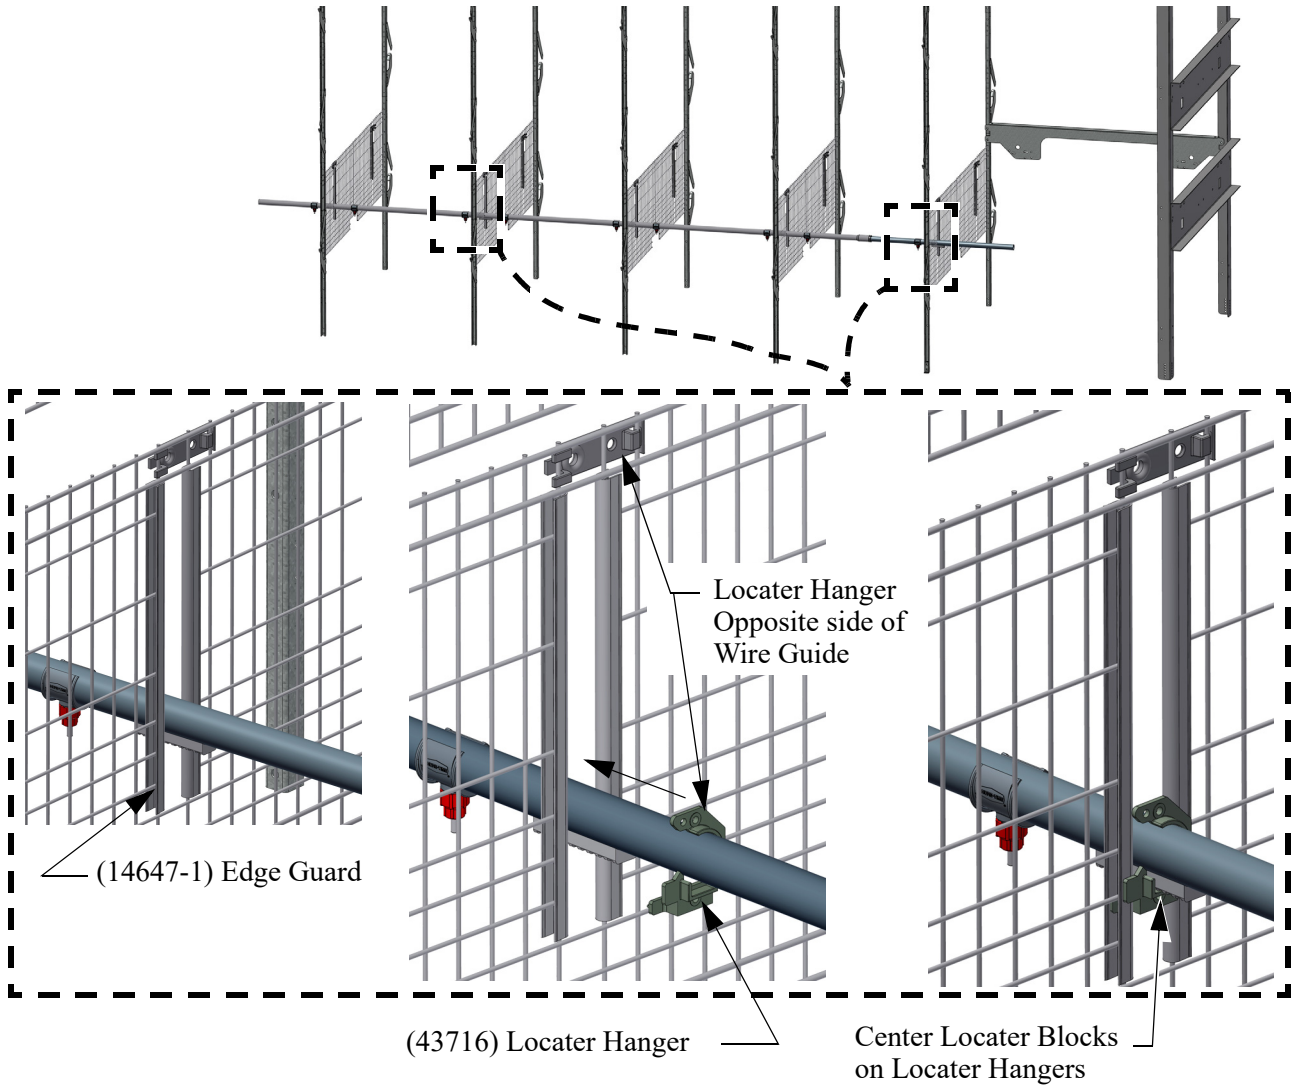

Figure 12.Edge Guard/Locator Block installation
4. Install a Locator Hanger (43716) at each Locator Block location as shown in (Figure 12.)